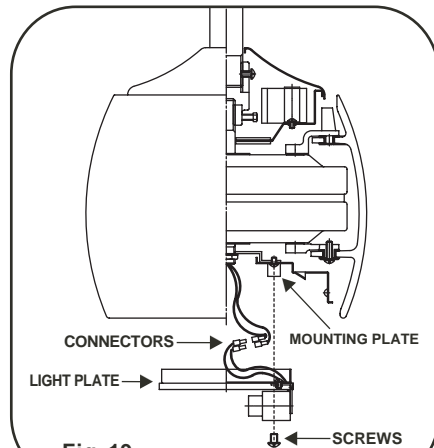

Fig. 19
2. Raise and hold the light plate close to the mounting plate and proceed to do the wire connections. Connect the white wire connectors from the light plate and fan, follow the same procedure with the black wire connectors. (Fig. 19)
3. Place the key holes on the light plate over the 3 screws previously loosened from the mounting plate, turn light plate until it locks in place at the narrow section of the key holes. Secure by tightening the 3 screws previously loosened. (Fig. 19).